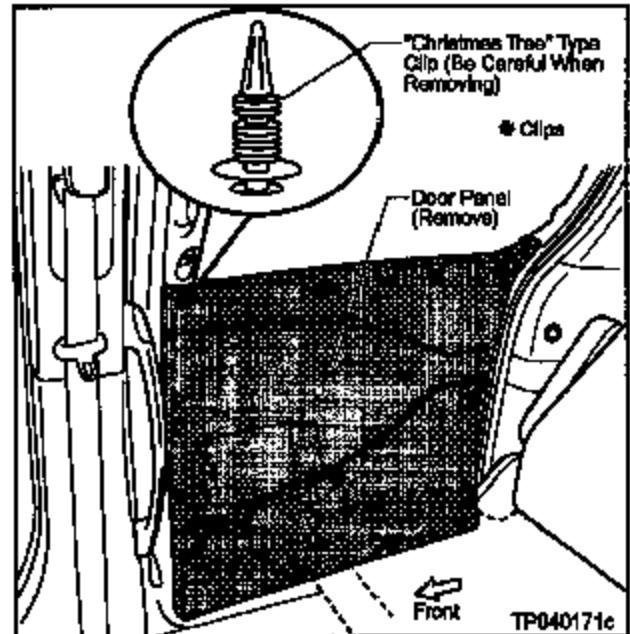

Figure 2
7. Remove the Sliding Door Inner Panel (see Figure 2) as follows: